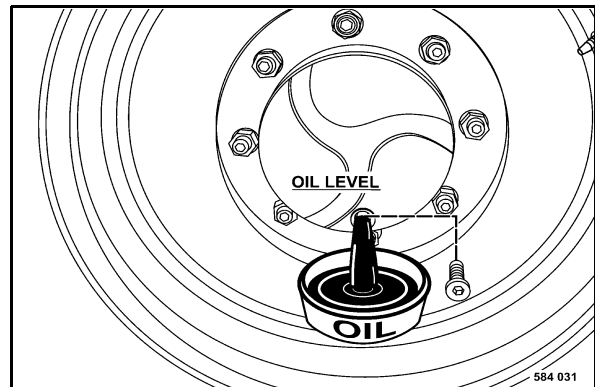

Fig. 166
- Move the drive wheel, until the plug (Fig. 166) is in bottom position.